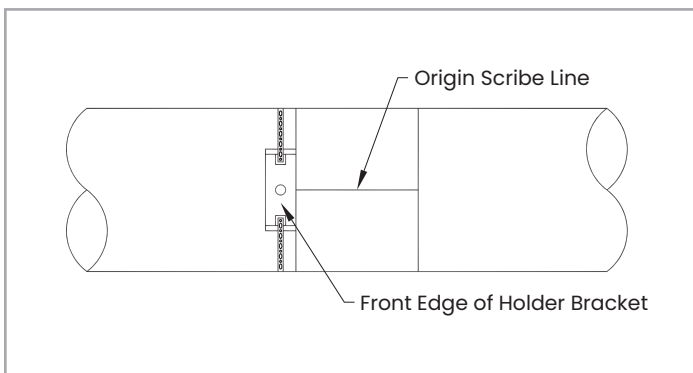
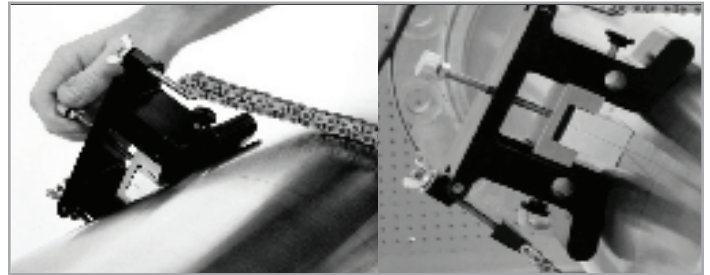

Figure 33: Lining up the first bracket
Figure 34: Positioning the CFG-PI holder bracket
3. Line up one edge of the CFG-PI holder bracket with the origin scribe line and fully tighten the chain or strap (see Figure 33 and Figure 34 below).
4. Install the transducer dummy block to verify the circumferential and axial location. Center the indicator line on the block to line up with the scribed mark (see Figure 34 below).